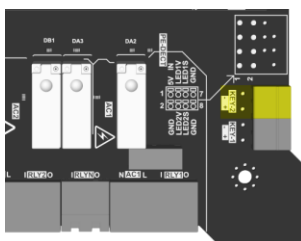

Fig. 6-14 Position of KEY2 terminals
5. Locate the two unused terminals labeled **KEY2** on the lower circuit board of the EV charging station (see Fig. 6-14).